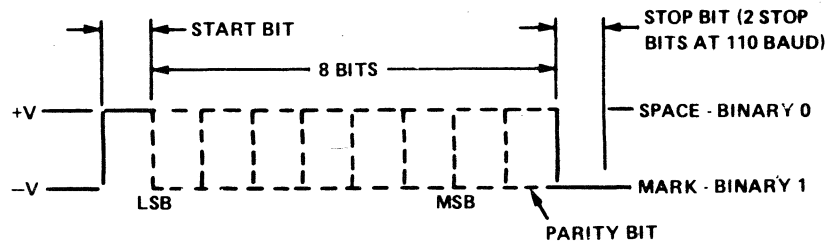

Figure 4-9. Asynchronous Data Format
4.5.3 ASYNCHRONOUS COMMUNICATION CONTROLLER. The TMS 9902 Asynchronous Communication Controller (ACC) transmits and receives asynchronous, serial data and provides the interface signals *data set ready* (DSR), *request to send* (RTS), and *clear to send* (CTS). The character structure of the transmitted and received data is shown in Figure 4-9.